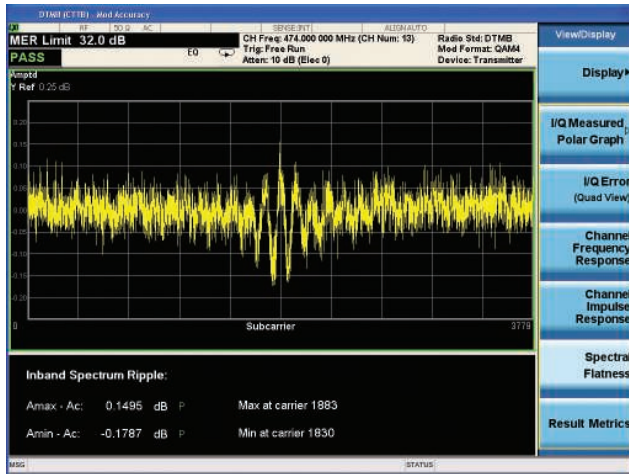

Figure 18. Modulation accuracy measurement with spectrum flatness view
- **Spectrum flatness** view (Figure 18): This two-window view can be used to verify whether the spectrum flatness meets the transmitter or exciter device standard with a PASS/FAIL indicator.
View the spectrum flatness (Figure 18)	[View/Display] {Spectrum Flatness}